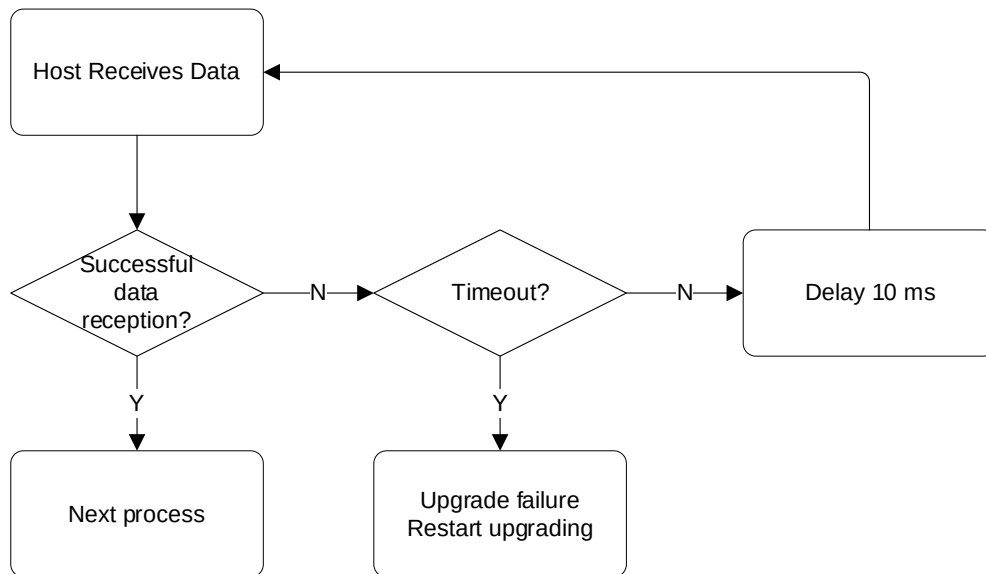

Figure 4: Data Received via I2C
1. As shown in Figure 4: Data Received via I2C, in case of firmware upgrading via I2C interface, it is recommended to read data cyclically at 10 ms intervals up to the timeout for each reception step or execute the next step after receiving correct data. And the timeout can be set by the customer.